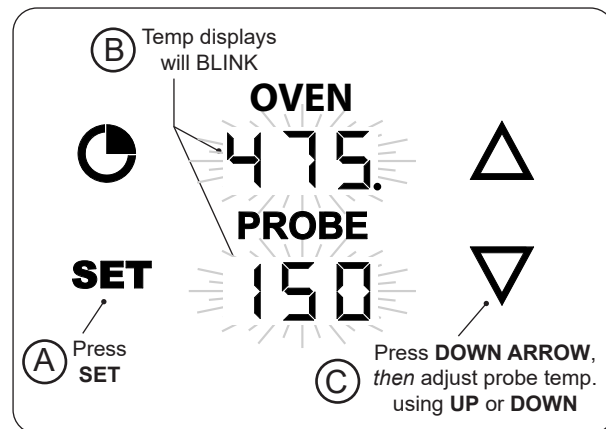

Fig. 40-2 Set probe temperature
1. With the thermometer **on** and the meat probe plugged in, press the **SET** button once. The OVEN and PROBE displays will blink. (While blinking, either area can be selected to enter their settings.) See Fig. 40-2, A and B.
2. Press the **DOWN ARROW** to select the probe settings, *then* you may use the up or down arrows to set the desired temp (Fig. 40-2, C).